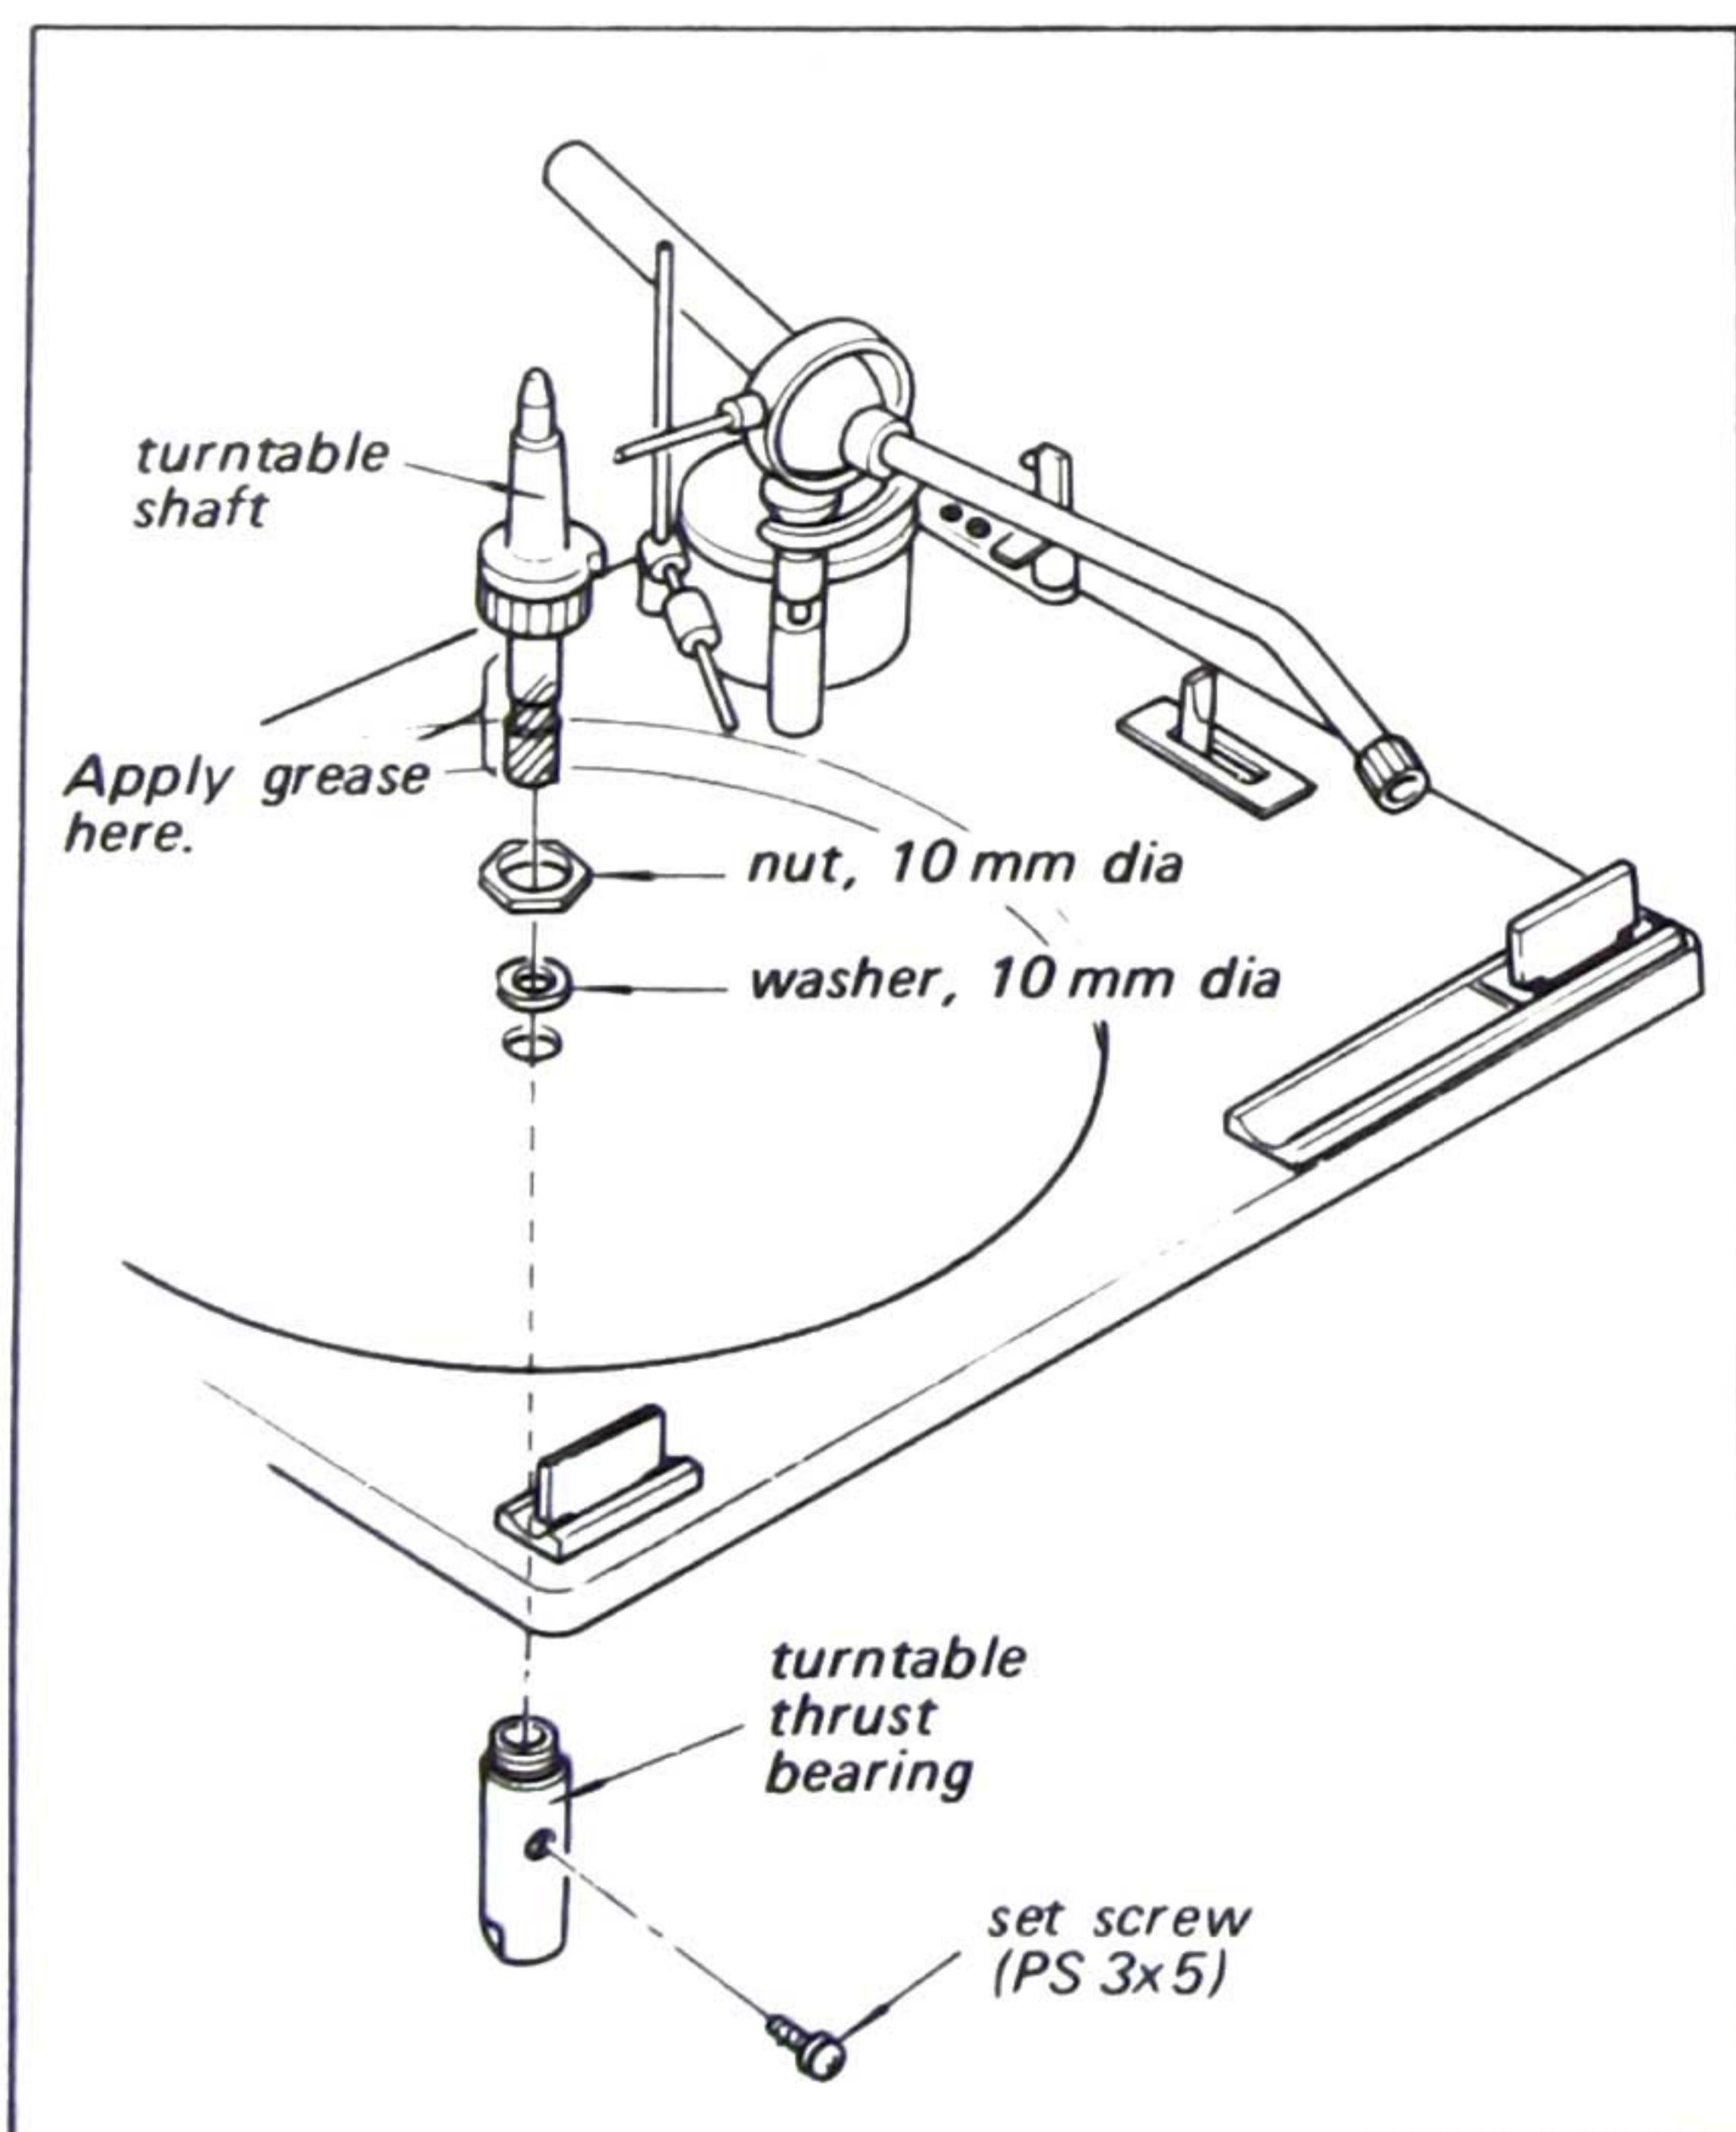

Fig. 2-4. Turntable shaft and turntable thrust bearing removal
- Pull out the turntable shaft by removing the set screw as shown in Fig. 2-4.
- Apply grease (Part No. 7-662-001-11) on the turntable shaft as shown in Fig. 2-4, when reinstalling it.
- Remove the nut and washer as shown in Fig. 2-4.